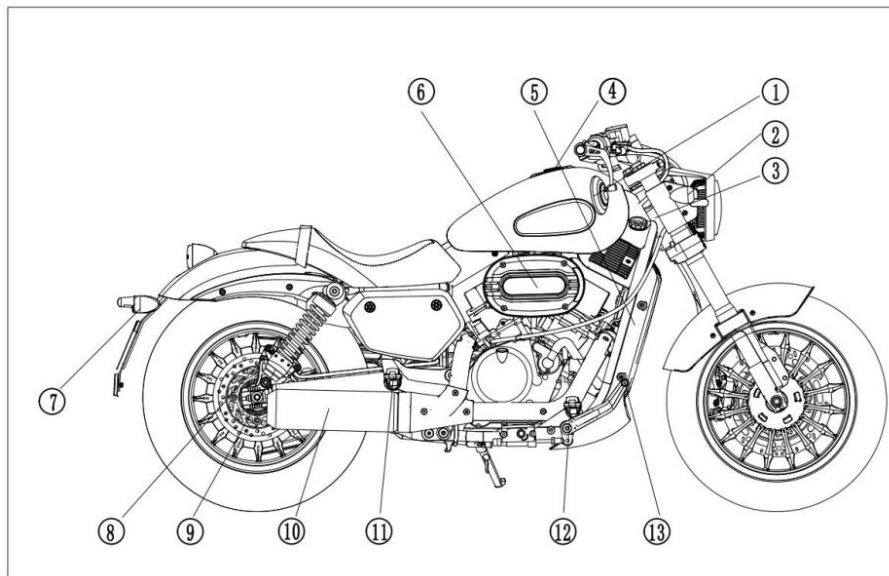

Fig.2
2. (Fig.2)
- ① R rear mirror
- ② FR turn single light
- ③ VIN
- ④ Tank cover
- ⑤ Nameplate
- ⑥ Air filter
- ⑦ RR turn single light
- ⑧ Rear brake clipper
- ⑨ Rear suspension
- ⑩ Exhaust muffler